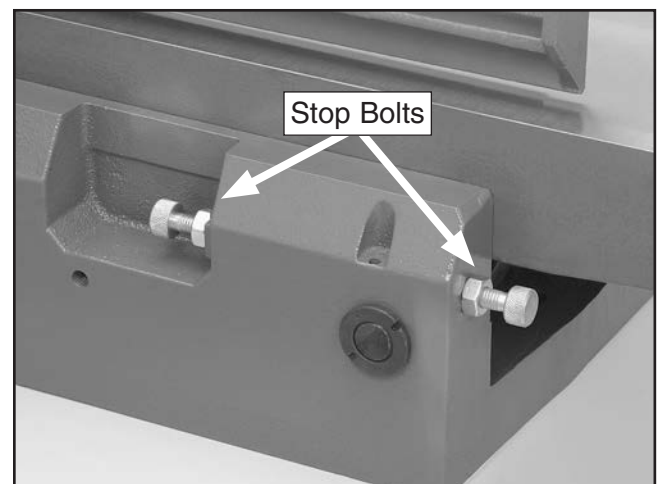

Figure 47. Outfeed table positive stop bolts.
3. Loosen outfeed table lock located at front of the machine, and loosen jam nuts and positive stop bolts located at the back of machine just behind outfeed table (see **Figure 47**).